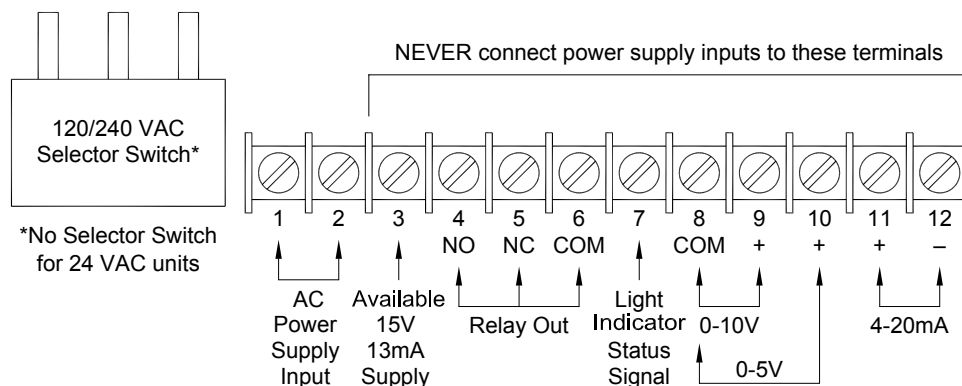

Figure 1: Electrical Connections - Terminal Strip J1
Make the following connections at **J1**, a 3/8" terminal barrier strip with #6 screws (see *Figure 1* below):
- C- Relay-adjust Potentiometer:** A SPDT relay output is available at terminals **4**, **5**, and **6** of connector **J1** (see Figure 1 on page 1). The contacts are rated 5 A at 30 VDC or 120 VAC, and 4 A at 240 VAC resistive. To adjust relay set pressure, use the potentiometer located behind the plug marked **RELAY**. Turn the potentiometer (clockwise to raise the pressure setpoint) until the desired pressure is reached. The relay is set at the factory to energize on falling pressure. To change the logic, see section 5.1.2 and refer to section 5.2.2 for a precise calibration procedure.
### 5.3.1 - Connect a voltmeter across terminals **8** (ground terminal) and **10** (5.00 Volt Output) of connector **J1** on the Main Board (refer to Figure 1 on page 1).